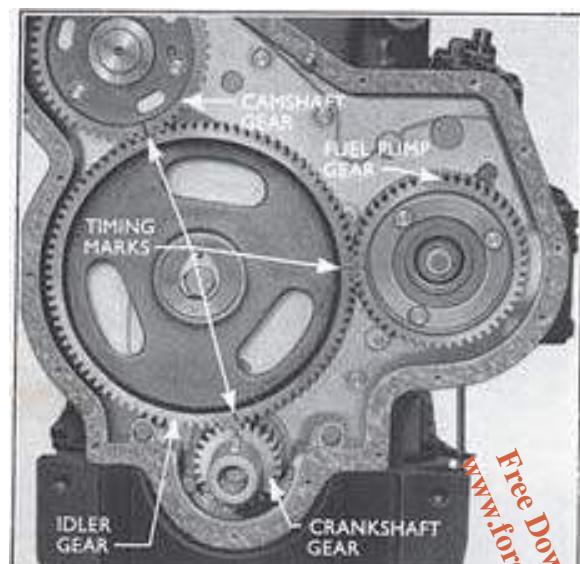

Fig. 8
The cam-shaft and the fuel pump are driven by the crank-shaft gear via an idler gear. All the gears are suitably marked during production to facilitate re-timing, the marks being in line, when No. 1 piston is at top dead centre on its compression stroke (see Fig. 8).
1. Turn the crankshaft until all the timing marks on the gears are in line (see Fig. 8).
2. Fit the new idler gear on the spigot with the long tapered centre boss of the gear towards the cylinder block, and the timing marks aligned (see Fig. 8).
1. Turn the crankshaft until the timing marks on the gears line up as in Fig. 8.
7. Refit the idler gear, at the same time turning the camshaft so that the timing marks on all gears line up as shown in Fig. 8.
5. Check that all gear timing marks line up as shown in Fig. 8.
1. Turn the crankshaft until all the timing marks are in line (see Fig. 8).